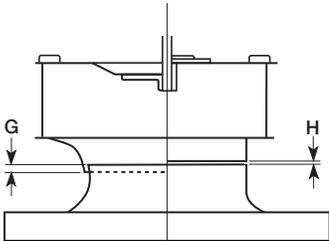

Figure 1
1. Check all fasteners for tightness. The wheel should rotate freely and be aligned as shown in Figure 1.